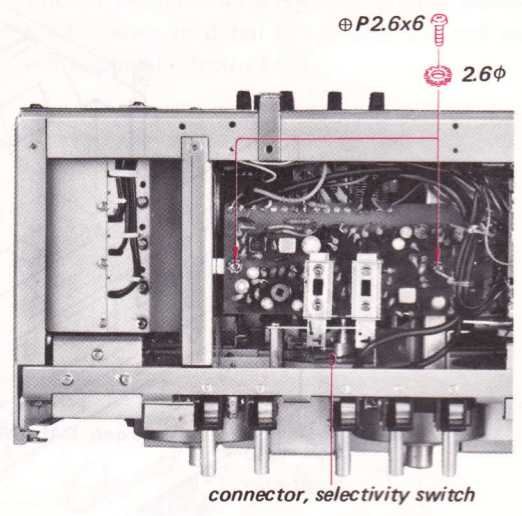

Fig. 2-7
1. Remove the two screws shown in Fig. 2-7.